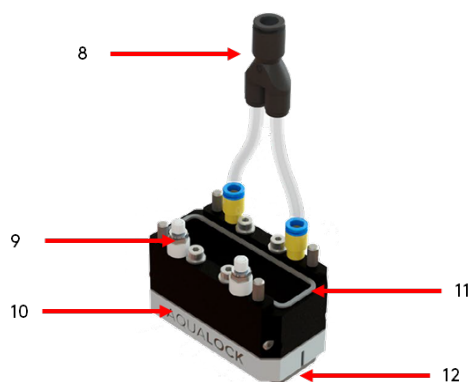

Figure 22: LYNCS CM water box
- b. Removing the supplied probe seal (page 27, item 11 of figure 22) from the water box and fix to the probe.